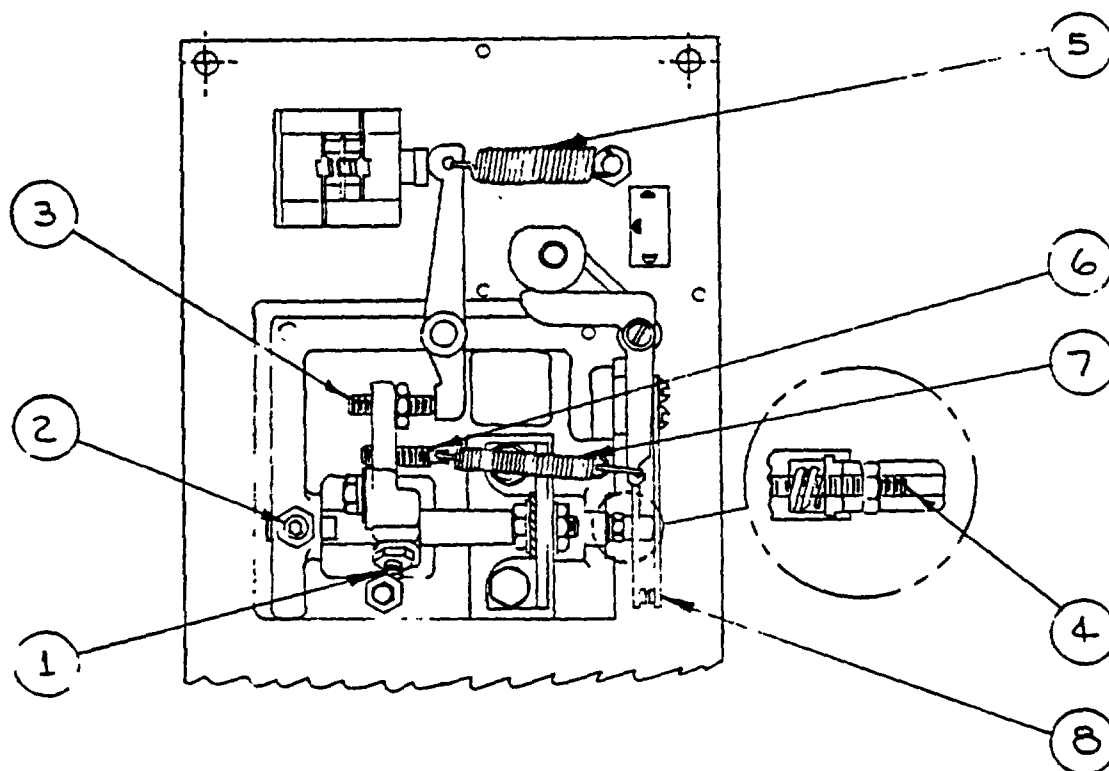

FIG. 4
4. Verify the proper setting of the slide rod stop screw (Item 2, Fig. 4). It is adjusted to maintain 1/4 turn clearance between the end of the stop screw and the milled flat on the slide rod. The movable jaw must move freely with both tilt adjustments bearing on the jaw.
1. Loosen the lock screw (Item 1, Fig. 4) that holds the movable jaw to the slide rod.
3. Push the slide rod toward the fixed jaw until the shoulder of its milled flat contacts the slide rod stop screw (Item 2, Fig. 4).
4. Tighten the lock screw (Item 1, Fig. 4) and lock the jam nut on it.
3. Turn the adjustment screw (Item 4, Fig. 4) as required to just break the circuit with .140" gap. (CW reduces the gap; CCW increases the gap.)
The upset force shall be from 10 to 12 lbs. when measured at the movable jaw with the upset force selector set for the narrowest width band. The approximate locations of the upset force adjustment screw (Item 6, Fig. 4) is with the back end of the screw flush with the cast jaw surface. The final adjustment is made in the following manner:
1. Disconnect the weld lever return spring (Item 5, Fig. 4.)
7. If the spring scale reading at this point does not fall in the required range (10 to 12 lbs.) the upset force adjustment screw must be reset, (Item 6, Fig. 4.)
8. To re-set the screw, disconnect the jaw upset spring (Item 7, Fig. 4) and turn the screw, as required.
With the weld lever in the anneal position, (as located by the detent of the drag spring) and the upset force selector in its widest position, turn the jaw gap adjustment screw (item 3, Fig. 4) to obtain 15/32" jaw gap. Lock the adjustment in place.